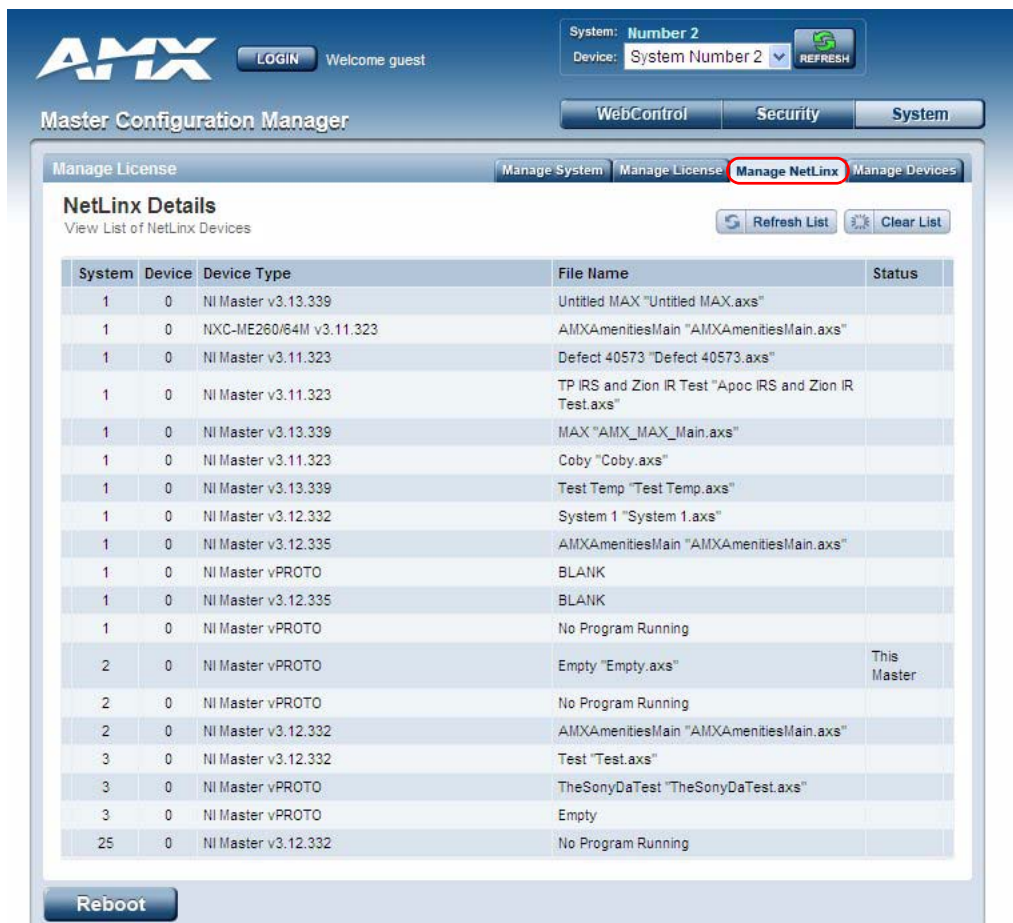

FIG. 50 System - Manage NetLinX tab
5. Open the **Manage NetLink** tab. This tab displays a list of NetLink devices connected to the Master, and indicates device status for each (FIG. 50).